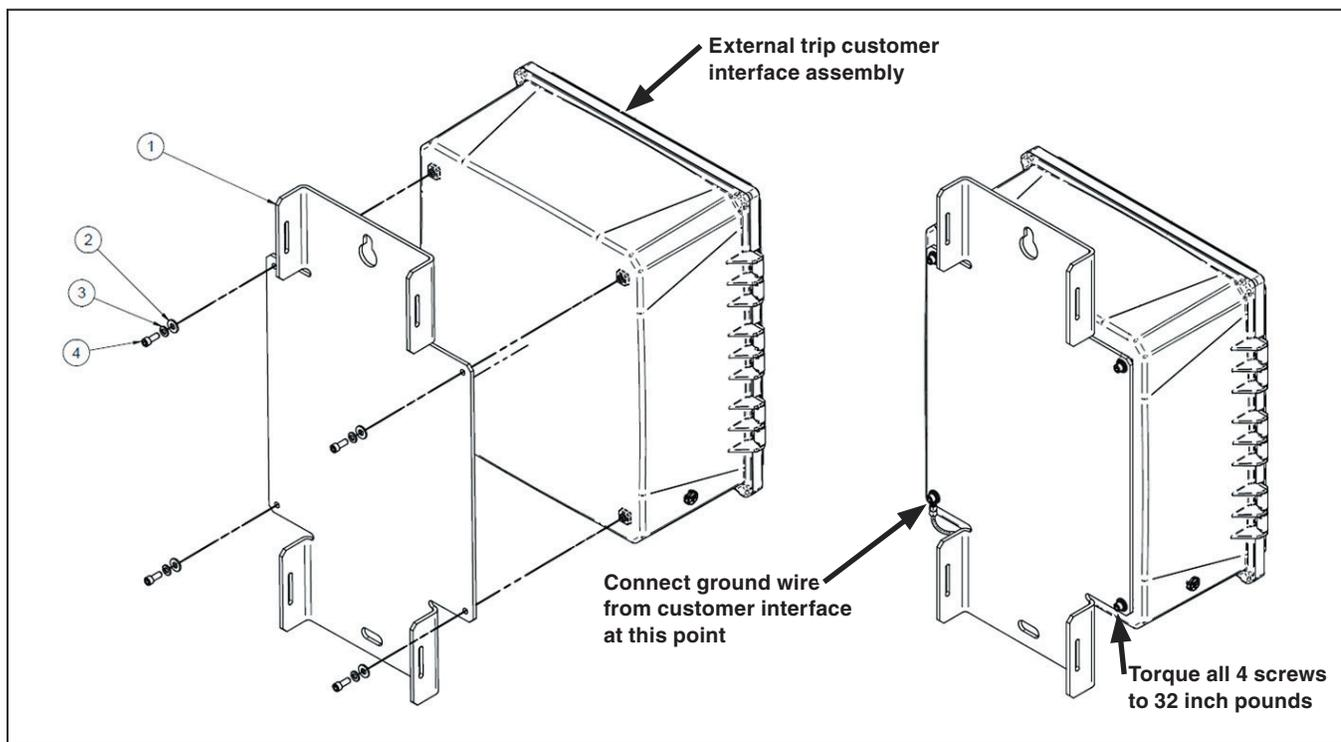

Figure 5. The mounting bracket attachment to the external interface assembly.
- STEP 2.** Install the mounting bracket to the back of the external interface assembly. See Figure 5. See S&C catalog number SDA-206029 for the square pole mounting kit and SDA-26030 for the round pole mounting kit.